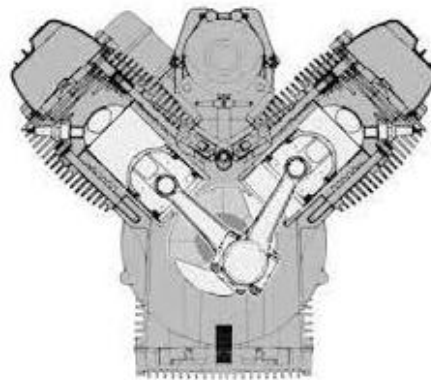

Figure 2: Illustrate V-Shaped Engine.
- V-shaped engine:** A V-shaped engine has two banks of cylinders that are placed at an angle to one another. Although ten- and twelve-cylinder engines can also have this arrangement, six- and eight-cylinder engines are more prevalent. Compared to inline engines, V-shaped engines provide a better mix of power and smoothness. The engine in the following Figure 2 is a V-shaped engine.